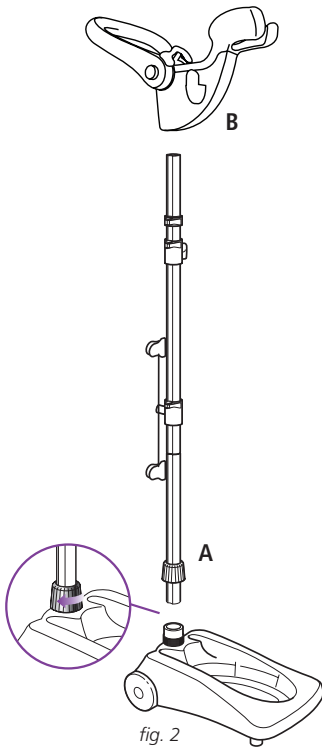

fig. 2
- 1 Set the base on the floor and insert the telescopic pole section (A) into the opening in the base. Align the opening of the telescopic pole with the opening of the base and slide it in. Secure the pole onto the base by turning the connector clockwise. (**fig. 2**)
- 2 Insert the steam nozzle cradle/handle (B) all the way down the telescopic pole until it stops. The cradle should face the front of the base. (**fig. 2**)
- 3 Place the portable steamer on the base. Make sure that it sits flat. (**fig. 2**)